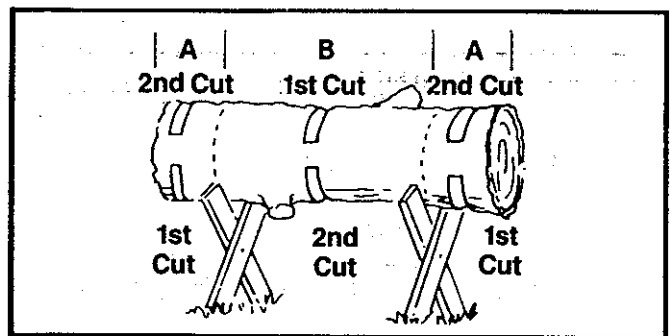

Figure 27
**5. BUCKING — USING A STAND** Figure 27.